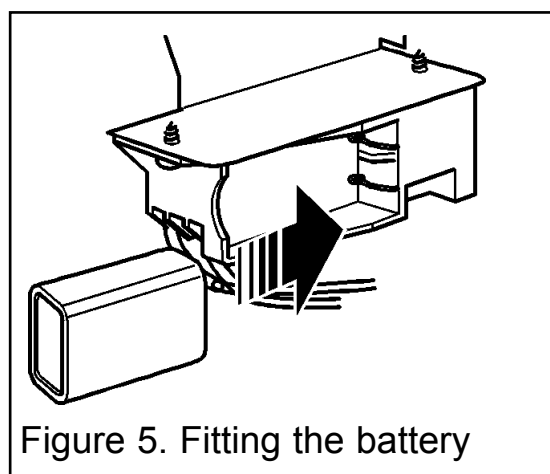

Figure 5. Fitting the battery
2. Fit the replacement battery to the ignition block. (See figure 5). The +ve and -ve terminal positions are marked on the battery holder body.